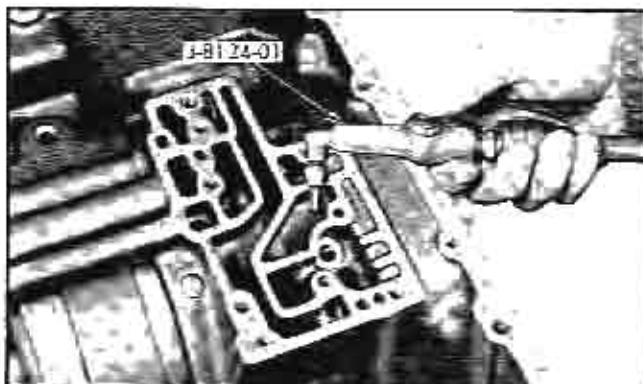

Fig. 69 Cleaning Passages In Case
1. After the case has been thoroughly cleaned, blow out all passages in case (Fig. 69) with compressed air using blow gun J-8124-01.